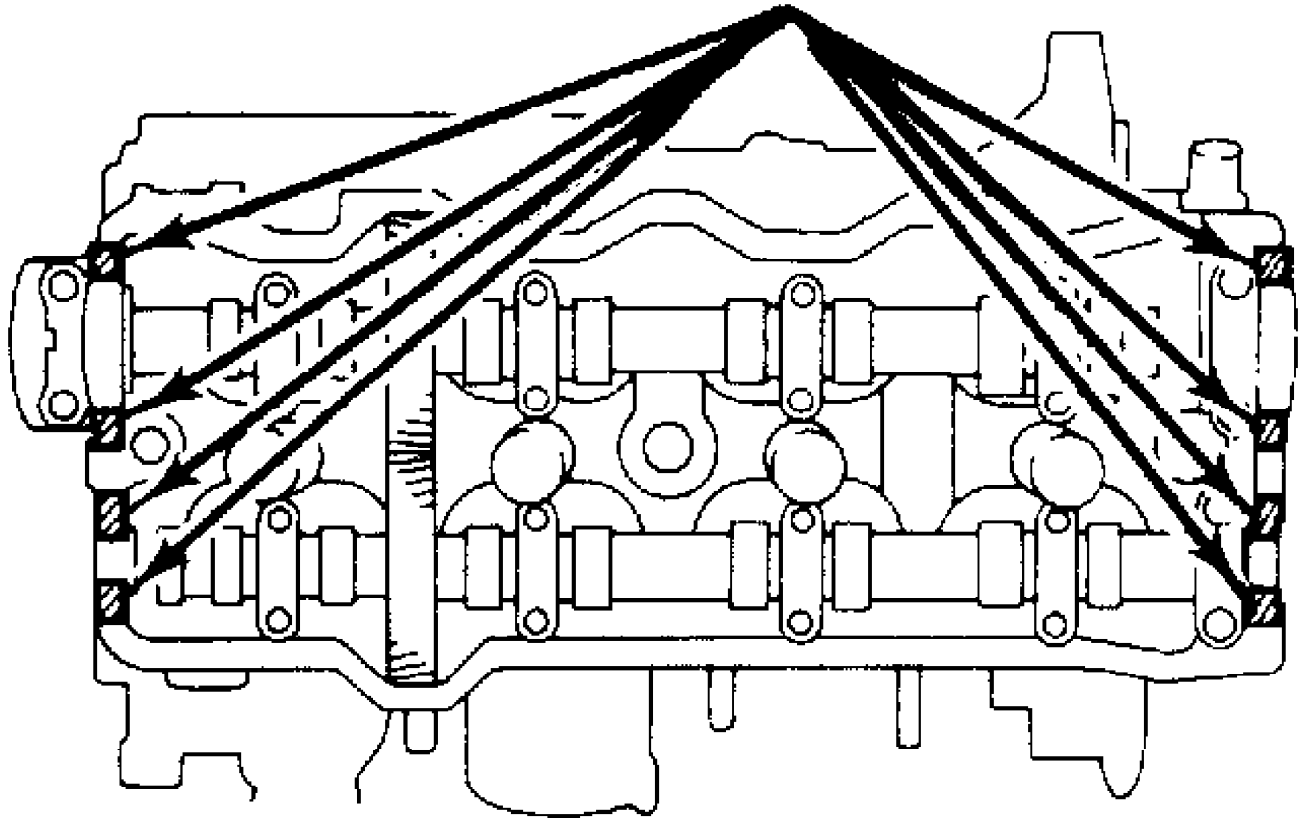

Fig. 20: Cylinder Head Seal Packing Installation
6) Apply a light coat of engine oil on threads and under heads of bearing cap bolts. Install and tighten, in sequence, bearing cap bolts in reverse order of removal. Remove service bolt. Install seal packing to cylinder head. See Fig. 20. Install gasket to head cover.